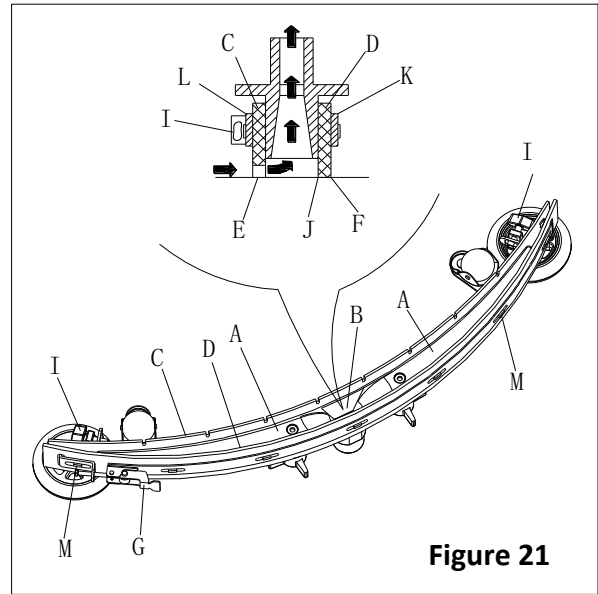
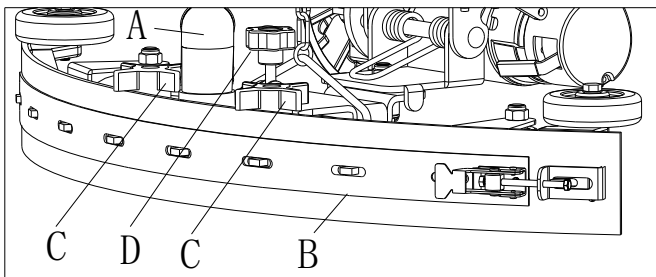

Figure 21
Figure 22
2. Check that the edges (E, Figure 21) of the front blade (C) and the edges (F) of the rear blade (D) lay down on the same level, along their length; if necessary adjust their height according to the following procedure:
- Remove the tie rod (G), disengage the fasteners (M) and adjust the rear blade (D), then engage the fasteners (M) and install the tie rod (G).
- Loosen the knobs (I) and adjust the front blade (C), then tighten the knobs.
3. Check the front blade (C) and rear blade (D) for wear, cuts and tears; if necessary replace them according to the following procedure. Check that the front corner (J) of the rear blade (D) is not worn; if necessary overturn the blade to replace the worn corner with an integral one. If the other corners are worn too, replace the blade according to the following procedure:
- Remove the tie rod (G), disengage the fastener (M) and remove the retaining strip (K), then replace/overturn the rear blade (D). Assemble the blade in the reverse order of disassembly.
- Unscrew the knobs (I) and remove the retaining strip (L), then replace front blade (C). Assemble the blade in the reserve order of disassembly. After the blade replacement (or overturning), adjust the height as shown in the previous step.
4. Connect the vacuum hose (A, Figure 22) to the squeegee.
5. Install the squeegee (B) and screw down the knobs (C).
6. If necessary, adjust the squeegee balance adjusting knob (D).